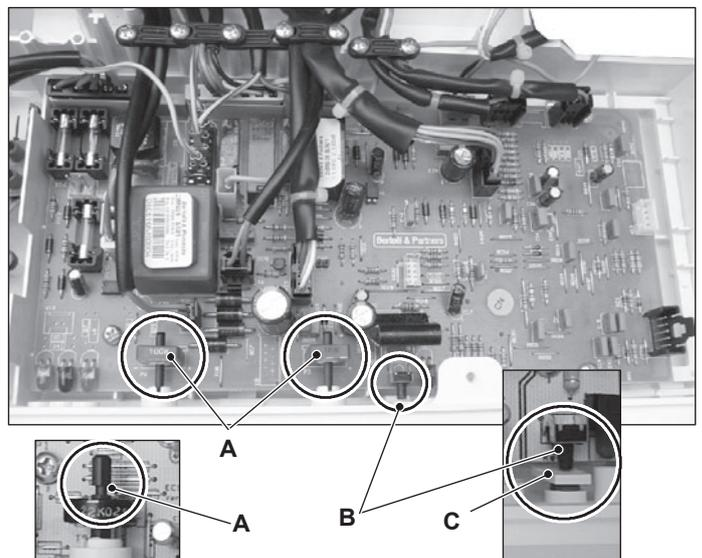

Figure 9.22
- Insert the spindles in the control panel knobs until the notch A (Figure 9.22) reaches the potentiometer edge. It is not necessary to force them in the knob.
- While tightening the screws that fix the Electronic control/ignition p.c.b. on the control panel, keep the p.c.b. towards the control panel fascia making sure of the contact between the boiler reset button B and the tab C (Figure 9.22).